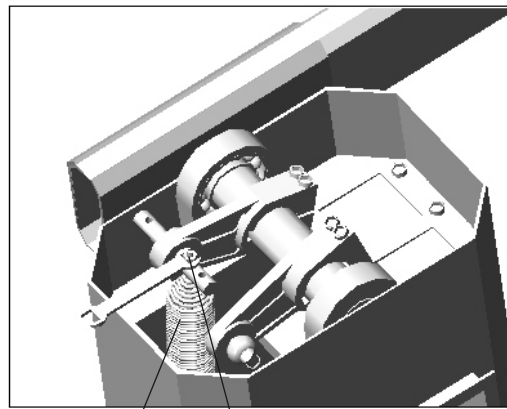

Fig.3
3. Adjust the spring's balance(Fig.3)
2°- Move manually boom on opening direction 50cm in 50cm ,where without assistance it must be fixed. In case of barrier movement you should give or remove spring force (Fig.3)